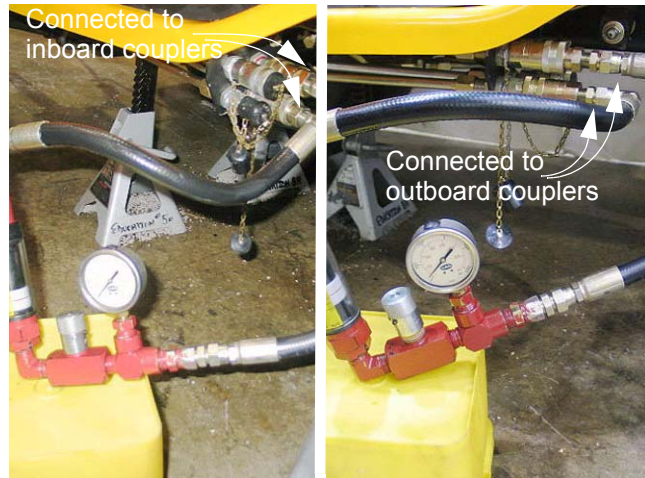

Figure 10.1
10.1. the simplest way to check pressure to the attachment is by connecting the test kit to the Quick Disconnect ports. See Figure 10.1.